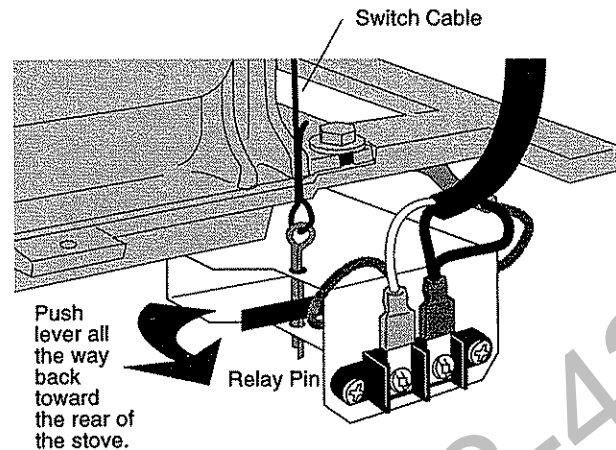

Figure 40. Reset the relay pin into the Safety Switch.
1. Push the switch lever fully back as shown in Fig.40 and insert the cotter pin/cable all the way through the top and bottom of the switch box. The pin must hold the lever back to engage the switch mechanism.